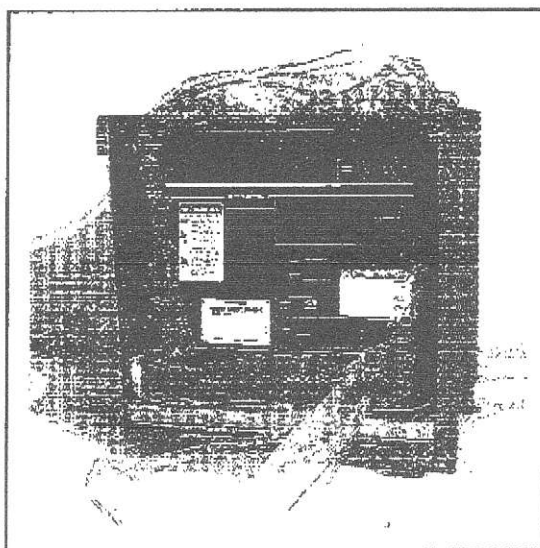

Fig. 1 Inspect for Damage
- 1) Make an immediate inspection for damage which might have occurred during shipment (Fig. 1). If damage is discovered, it should be noted with the carrier prior to accepting the shipment, if possible.